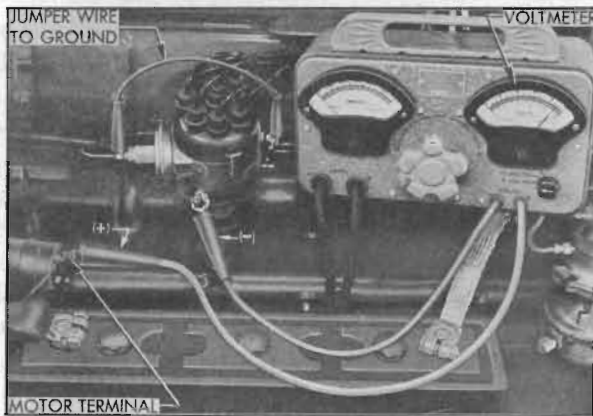

Figure 10-47—Cranking Voltage Test Connections
3. Connect voltmeter positive (+) lead to the motor terminal on solenoid switch; connect voltmeter negative (-) lead to ground on engine. See figure 10-47.